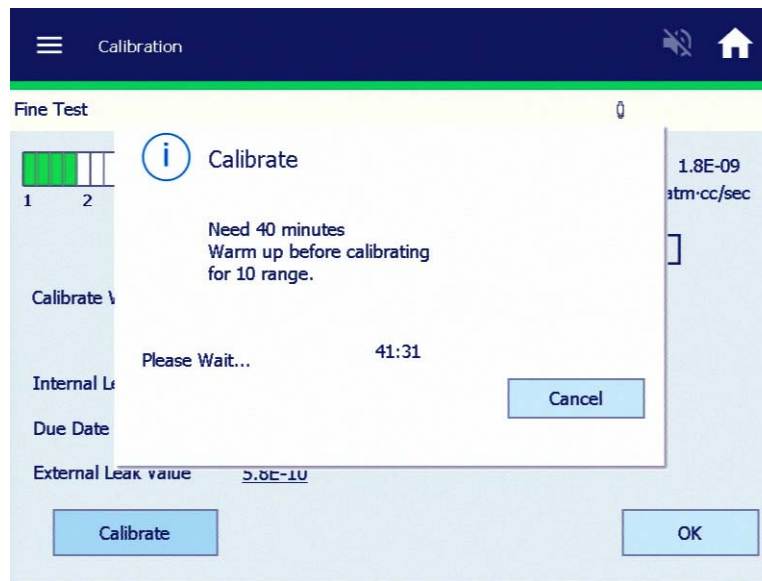

Figure 1-16 Helium Background Timer
- Background is changing, indicating the system is still pumping away background helium, a countdown timer appears (Figure 1-16). The system monitors the helium